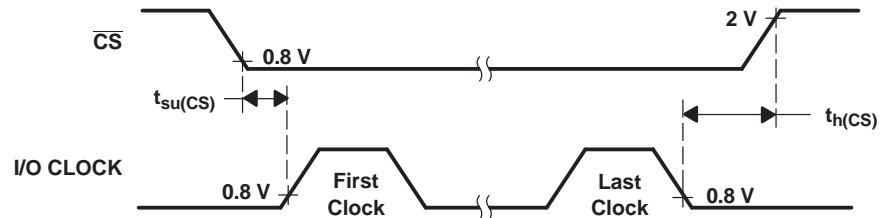

Figure 5. I/O CLOCK Setup and Hold Time Voltage Waveforms
| $t_{h(CS)}$ , see <a href="#">Figure 5</a>                     | Hold time, $\overline{CS}$ low after last I/O CLOCK↓                 | 0                         |          |                | ns   |
| $t_{su(CS)}$ , see (2) and <a href="#">Figure 5</a> | Setup time, $\overline{CS}$ low before clocking in first address bit | 1.425                     |          |                | μs   |